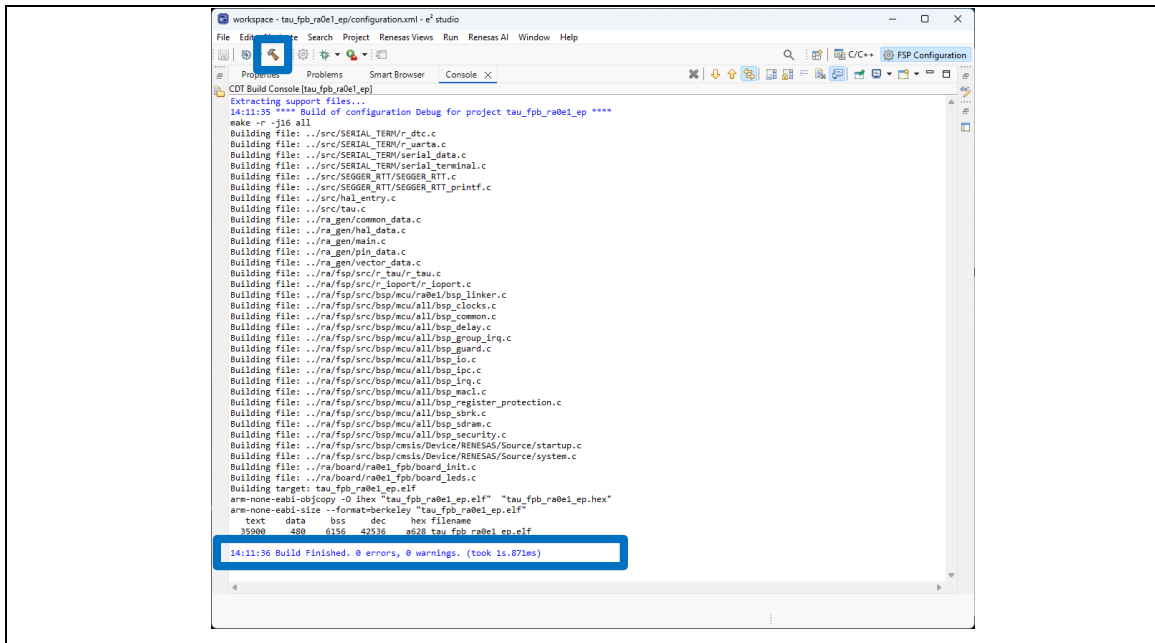

Figure 2-27 Build Finished
- (4) The user can improve and add functions to the sample program as needed; refer to the corresponding application notes published by Renesas.
- (5) When the software configurations or modifications are complete, click the [Build] icon on the Main toolbar as shown in Figure 2-27. When the building is done successfully, "Build Finished" is displayed.